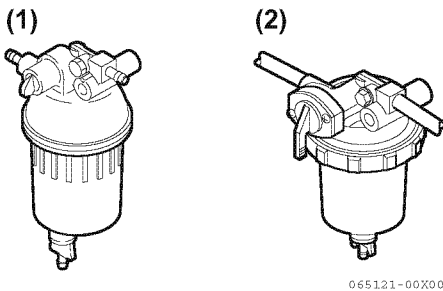

Figure 5-12
(2)	24321-000650
Identification between the parts numbers (1) and (2) is the same as in **Figure 5-12**.